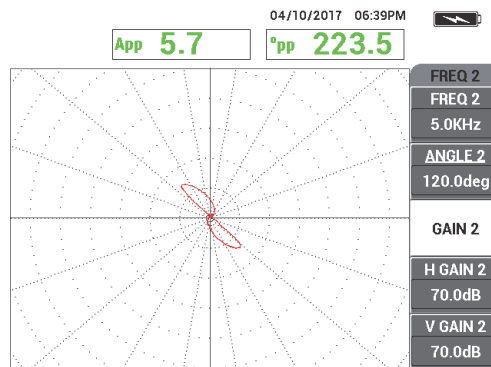

Figure 5-168 The frequency 2 scan signal of the 1.3 mm (0.052 in.) thru-wall hole
- Slowly scan the 1.3 mm (0.052 in.) thru-wall hole only, pressing the ERASE foot switch as required to clear the screen. When the hole signal is visible on the NORTEC 600 screen, press the FREEZE key (❄) [see Figure 5-168 on page 246].